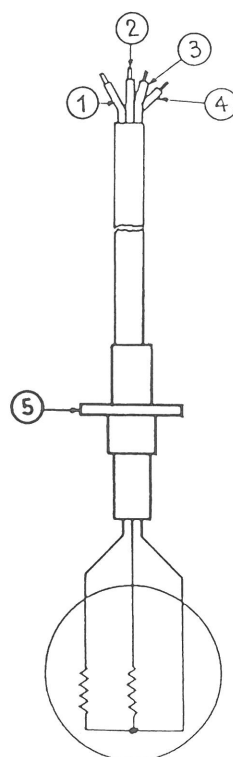

fig. 5 - Abb. 5 - fig. 5
15.5. SCHEMA ELETTRICO ELETTROPOMPA MONOFASE (fig. 5)
15.5. WIRING DIAGRAM FOR SINGLE-PHASE ELECTROPUMP (fig. 5)
15.5. SCHEMA ELECTRIQUE ELECTROPOMPE MONOPHASEE (fig. 5)
15.5. SCHALTPLAN EINPHASIGE ELEKTROPUMPE (Abb. 5)
15.5. ESQUEMA ELECTRICO ELECTROBOMBA MONOFASICA (fig. 5)